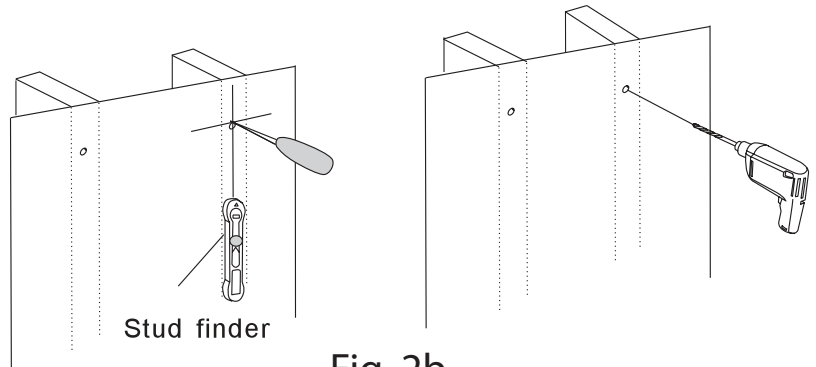

Fig. 2b
2. Place the Wall Plate flat against the wall with the center of the Wall Plate in the desired location, aligning the holes in the Wall Plate with the studs (Fig 2b). use the Wall Plate as a template to mark the location of the two mounting holes on the wall. Make sure that the mounting holes are level and are parallel.
4. Use a wrench, the two Lag Bolts (4) and M8 Washers (6) to attach the Wall Plate to the wall. Do not use wall anchors in wood stud walls.